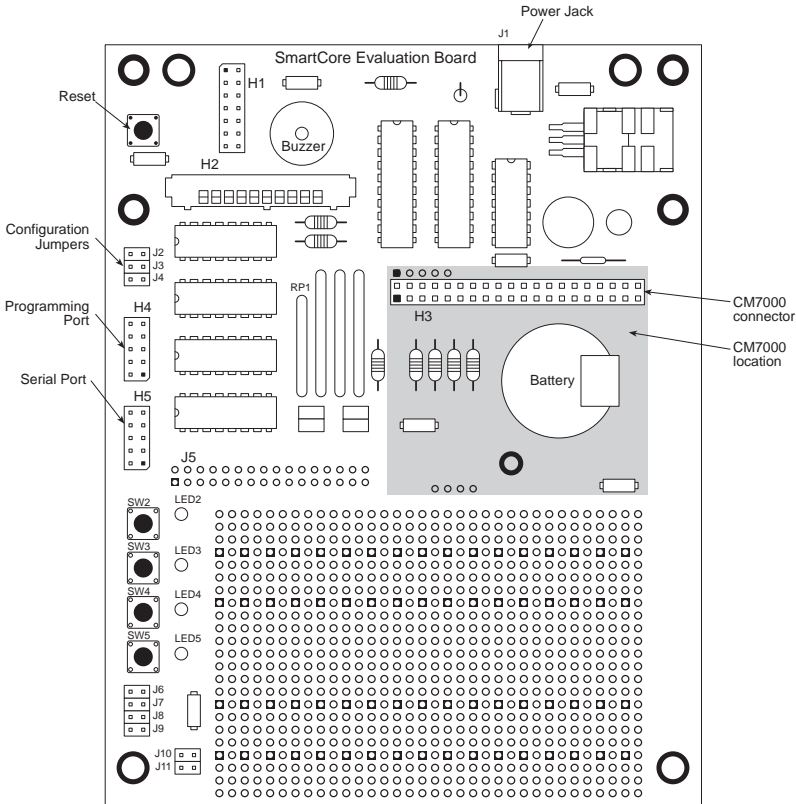

Figure 2-4. CM7100 Prototyping Board
- Place jumpers across headers J2, J3, and J4 on the Prototyping Board to enable headers J6–J11 on the Prototyping Board. The Prototyping Board is shown in Figure 2-4.